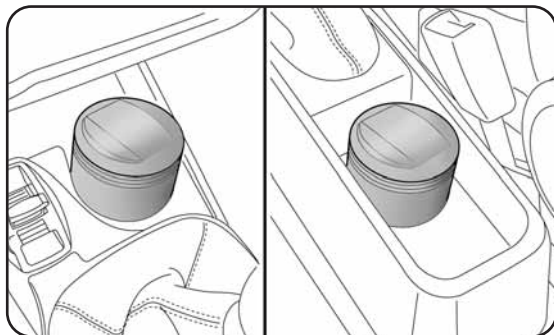

fig. 50
**ASHTRAY (where provided) fig. 50**